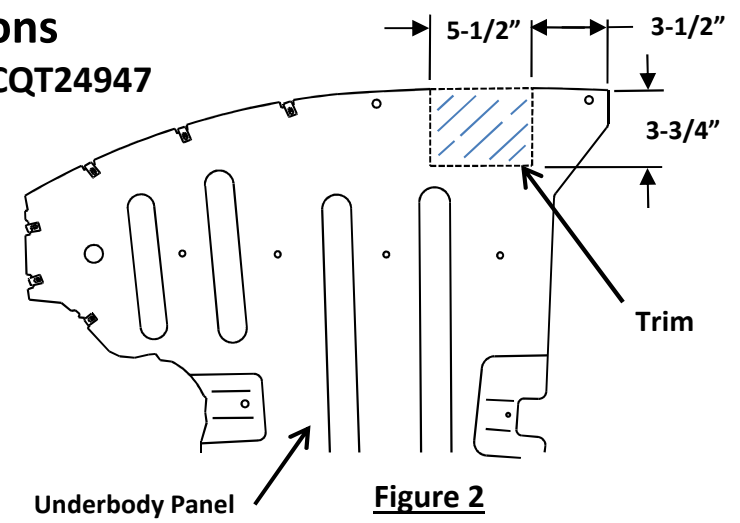

Figure 2
6. **Trim underbody panel** - using a tape measure, tape, & tin snips, mark & trim the underbody panel as shown in figure 2.
6. **Trim underbody panel** - using a tape measure, tape, & tin snips, mark & trim the underbody panel as shown. See figure 2.